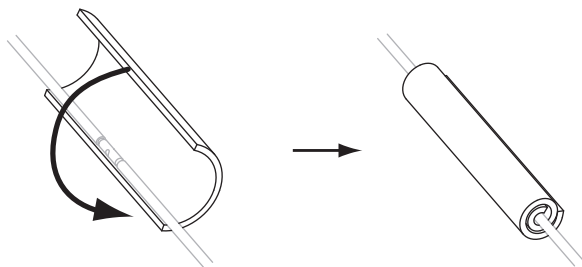

Fig. 16
- 9: Remove the backing paper from the splice insulation tape and center on the butt connector along the length of the tape. Tightly wrap the insulation tape around the butt connector and wires (Fig. 16).